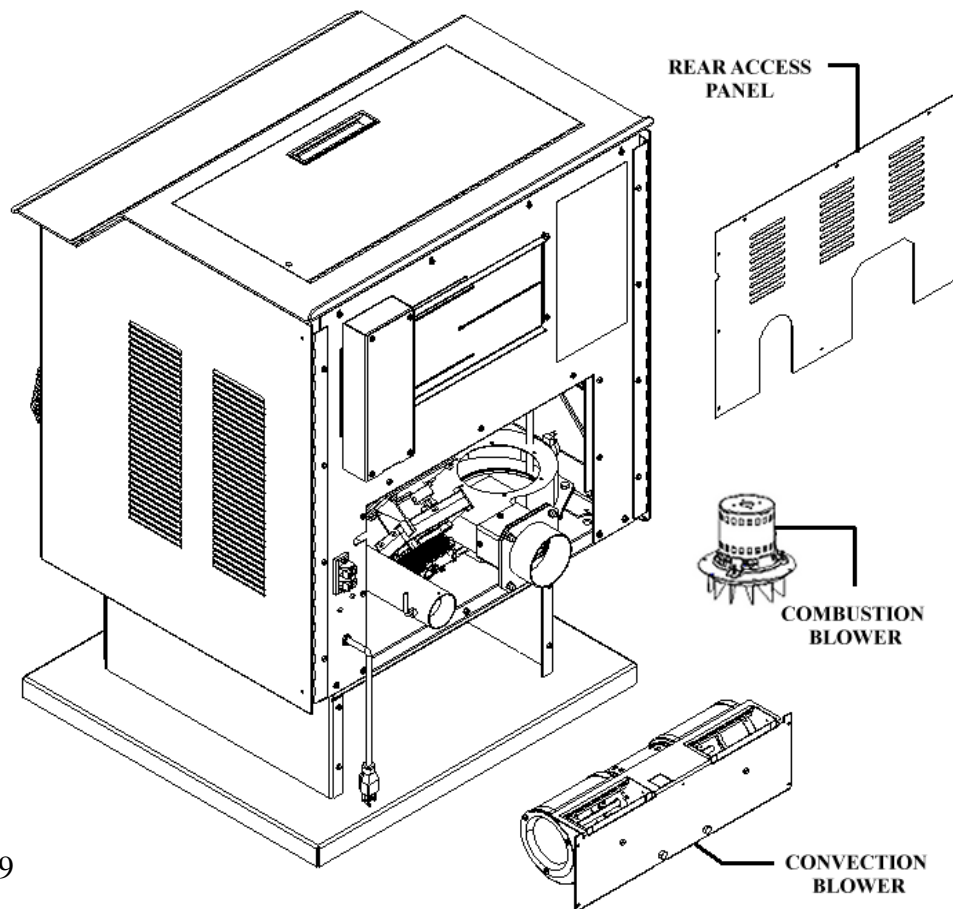

Figure 29
2. The Exhaust System should be thoroughly cleaned at least annually. Call your dealer for this service. (See figure 29 on page 42)
3. The Motor/Fan area behind the firebox and under the hopper should be vacuumed annually. (See figure 29 on page 42)
4. The exhaust fan should be removed and cleaned with compressed air annually. Call dealer for this service. Annual oiling of the motors is not needed. (See figure 29 on page 42)
5. The Convection fans should be removed and cleaned with compressed air annually. Annual oiling of the motors is not needed. (See figure 29 on page 42)